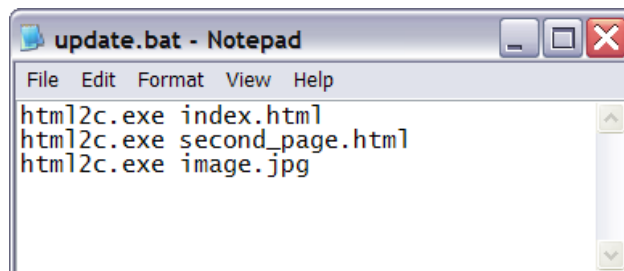

Figure 28. Automating the Conversion Using a Batch File
- **Batch File.** The *update.bat* batch file in the “VFILE” folder can be used to automate the conversion process. If additional content is added to the server, the batch file can be updated as shown in Figure 28.